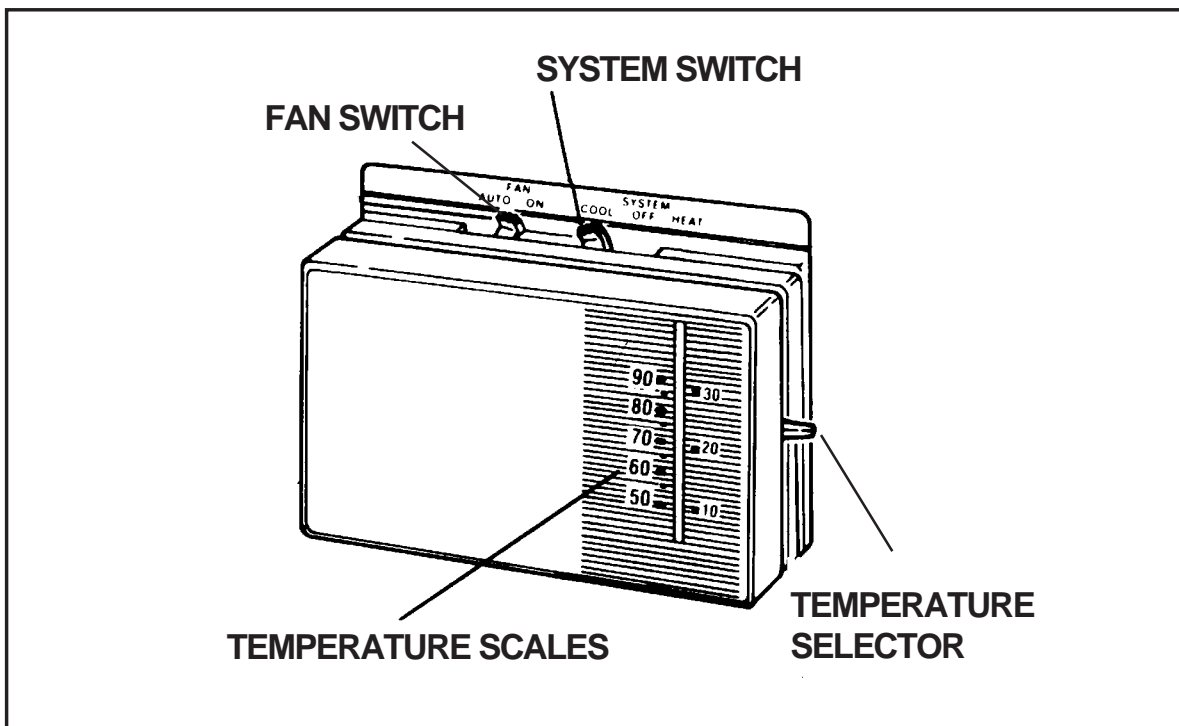

Figure 1. Typical Thermostat
1. Set the thermostat system switch to COOL or AUTO and the thermostat fan switch to AUTO. (See Figure 1)
1. Set the thermostat system switch to HEAT or AUTO and the thermostat fan switch to AUTO. (See Figure 1)
Set the thermostat system switch to OFF and the thermostat fan switch to AUTO. (See Figure 1)
Set the thermostat fan switch to ON (See Figure 1)